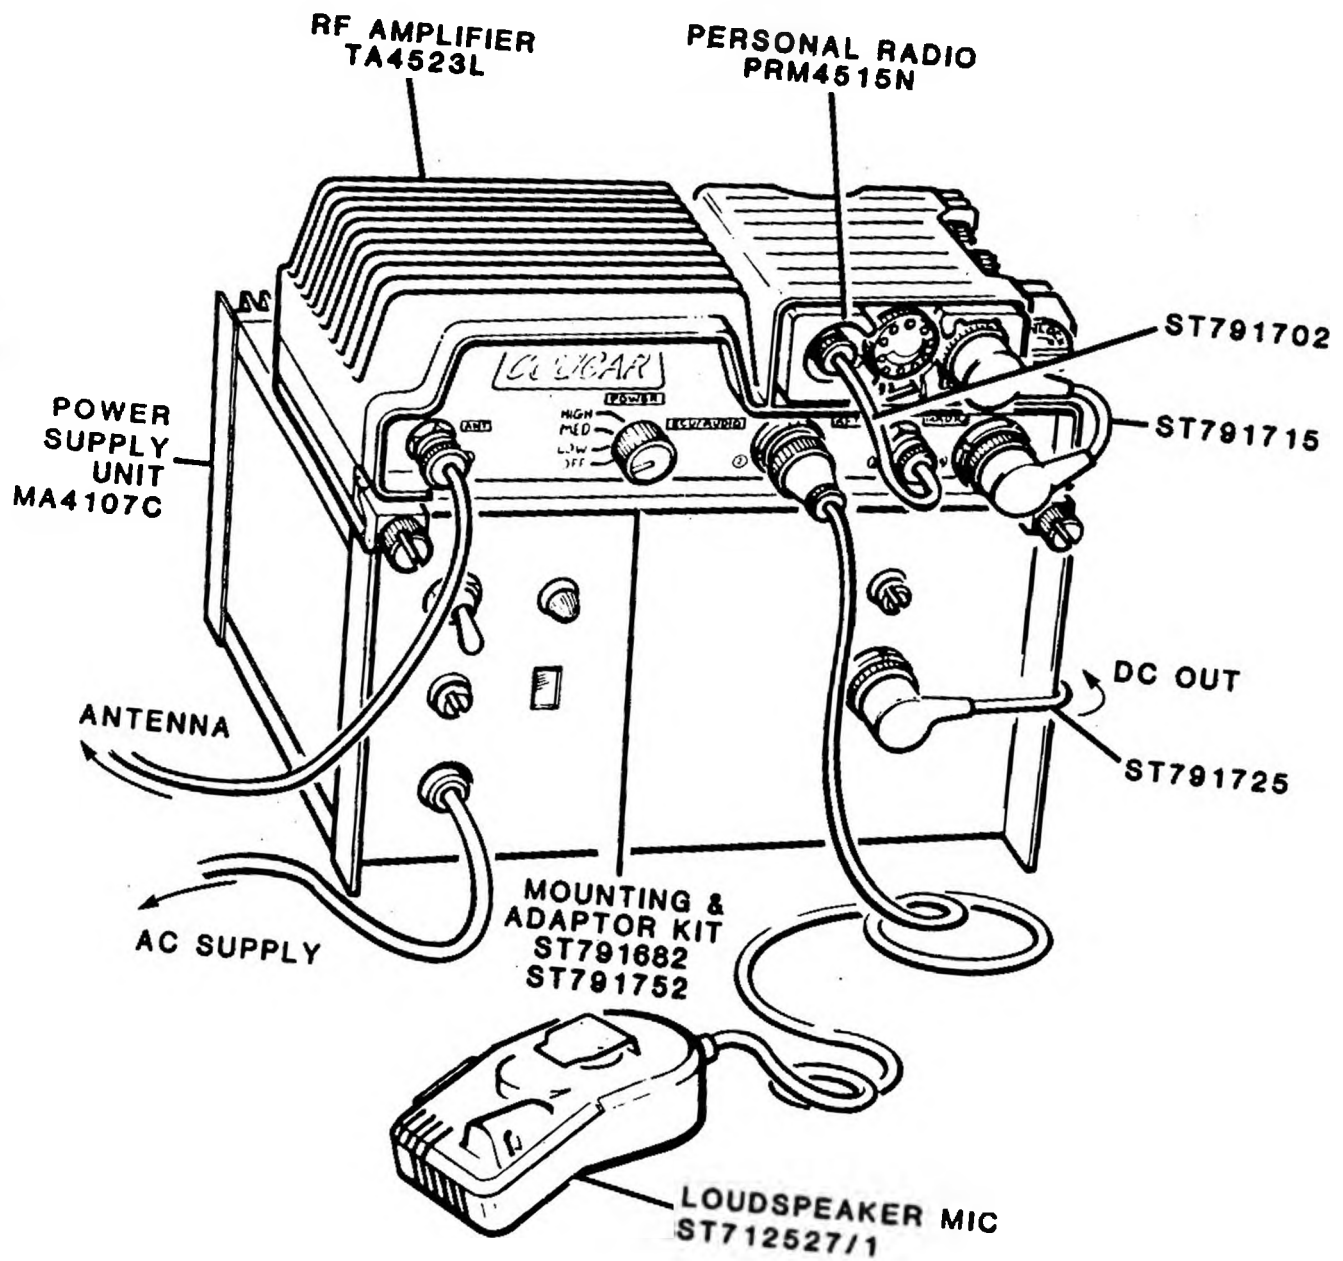

Fig 4 Type 1 base station
3.4 Type 1 Base station (Fig 4). Similar to the Manpack but provided with a desktop mains power supply unit onto which the radio is clamped.